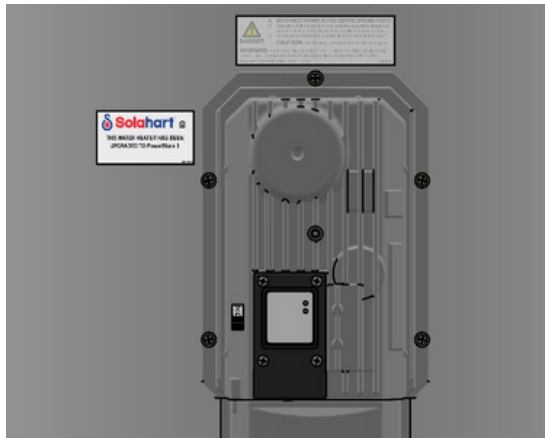

Fig 29
35. Fix label 126124, supplied in the kit, adjacent to the master controller (refer Fig 29).